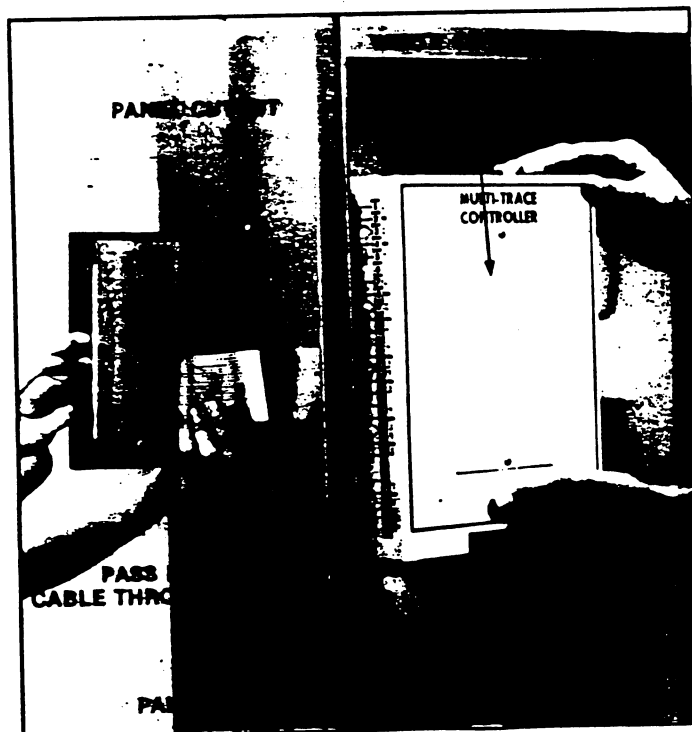

FIGURE 4-6
2. Hold the faceplate near the exterior of panel door. Pass ribbon cable through cutout, then position faceplate into cutout. Tighten upper and lower anchor screws on rear of faceplate to hold firmly on panel door (Refer to Figures 4-6 and 4-7.)